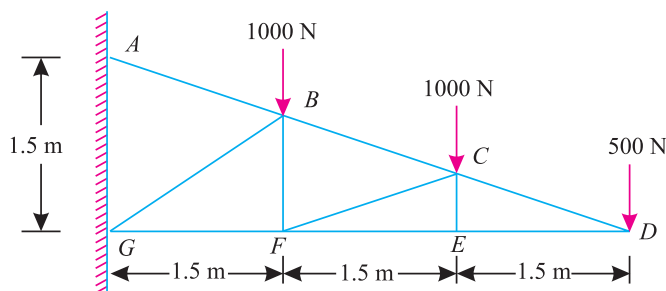

Fig. 13.29.
**Example 13.8.** Figure 13.29 shows a cantilever truss having a span of 4.5 meters. It is hinged at two joints to a wall and is loaded as shown.